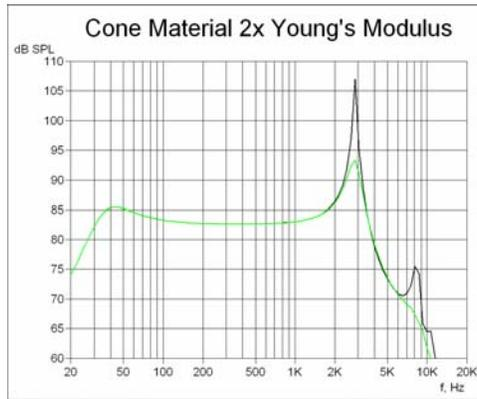

Figure 9 - 2nd guess. Peak now at the right freq.
- Adjust Young's Modulus (E modulus) to approximate a known (measured) response or known break-up modes. Look for characteristic peaks or dips in the response, see fig. 9.